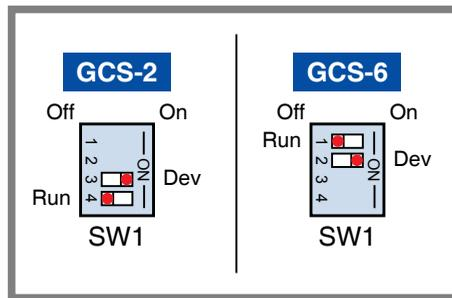

Figure 12: T/DP1 Set for Target Device
2. Set the SW1 DIP switch for T/DP1 to Dev as illustrated in Figure 12.